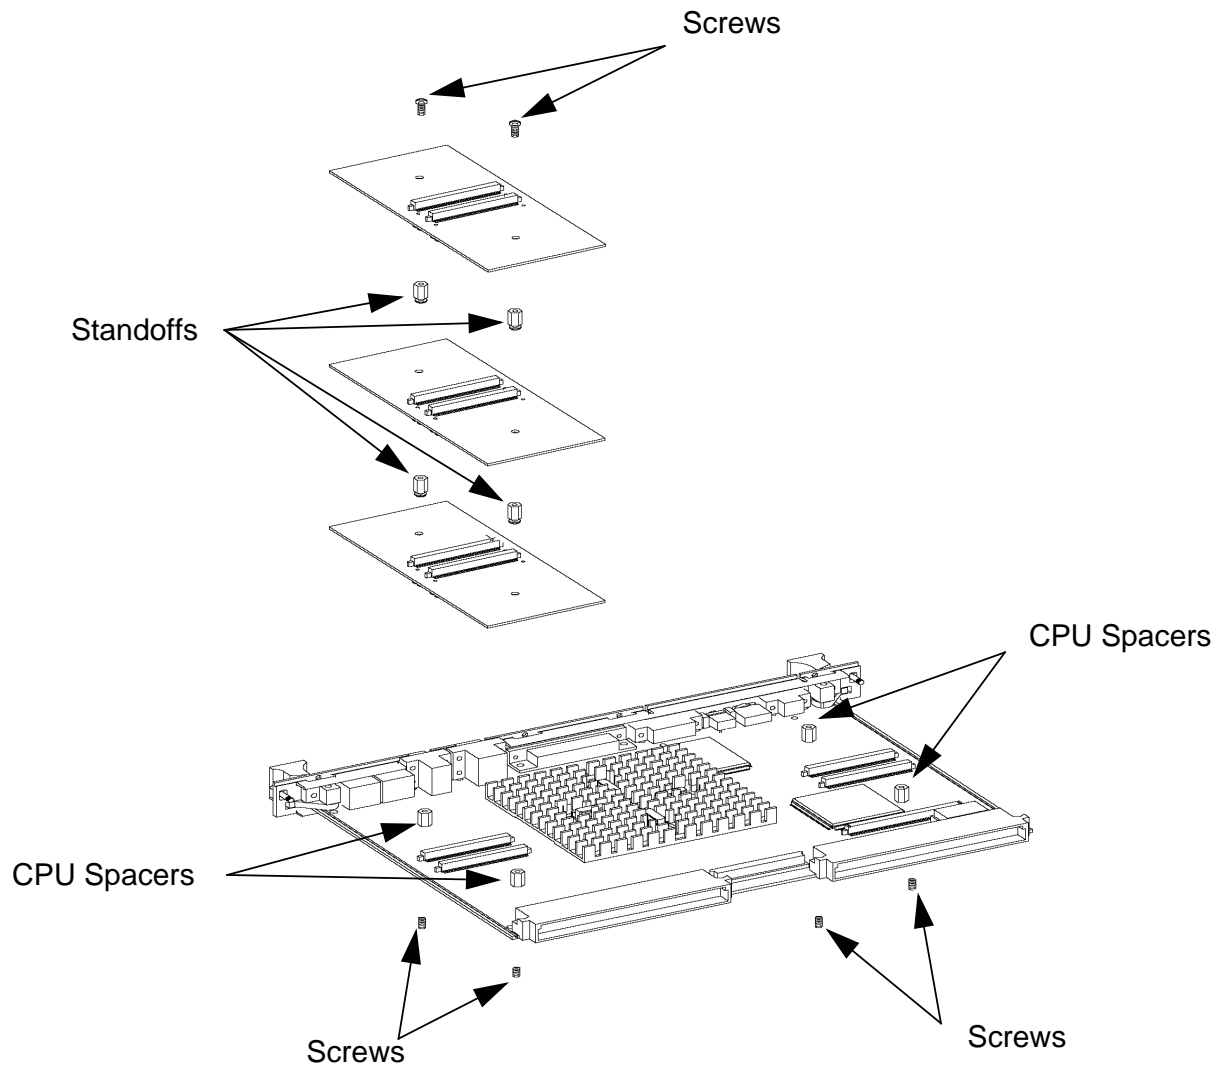

Figure 2-1 **Installing RAM Cards**
- 1** Place the first RAM card on the board standoffs, lining up the connector on the RAM card with the connector on the board, as shown in Figure 2-1.